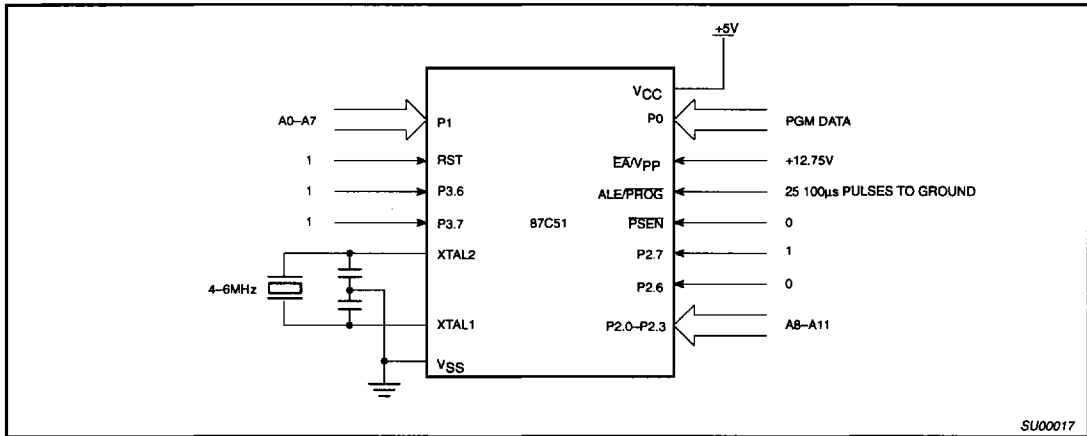
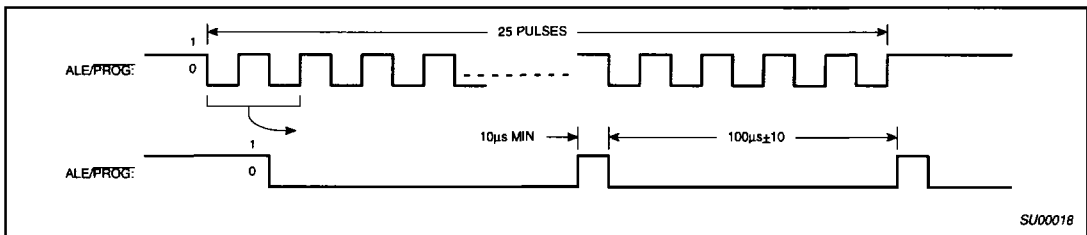
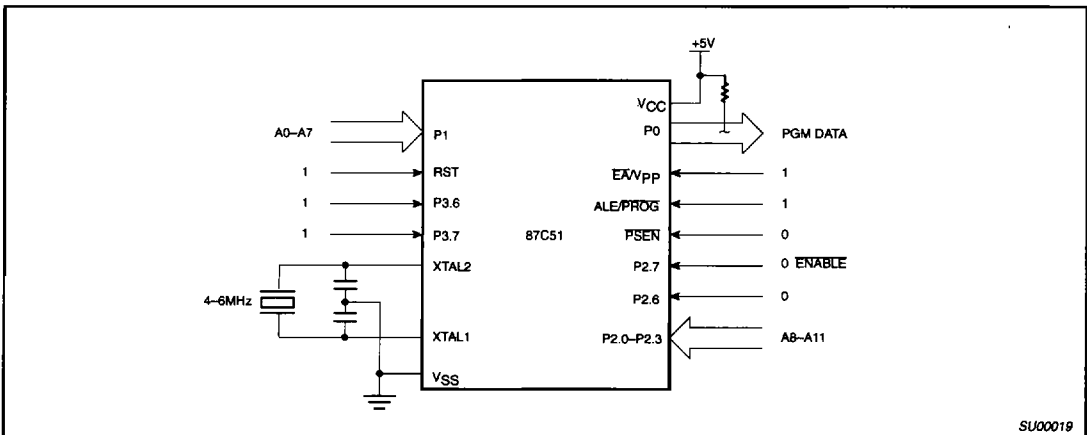

Figure 13. Programming Configuration
Figure 14. PROG Waveform
Figure 15. Program Verification
Table 3 shows the logic levels for reading the signature bytes, and for programming the program memory, the encryption table, and the security bits. The circuit configuration and waveforms for quick-pulse programming are shown in Figures 13 and 14. Figure 15 shows the circuit configuration for normal program memory verification.
The setup for microcontroller quick-pulse programming is shown in Figure 13. Note that the 87C51 is running with a 4 to 6MHz oscillator. The reason the oscillator needs to be running is that the device is executing internal address and program data transfers.
The address of the EPROM location to be programmed is applied to ports 1 and 2, as shown in Figure 13. The code byte to be programmed into that location is applied to port 0. RST, PSEN and pins of ports 2 and 3 specified in Table 3 are held at the 'Program Code Data' levels indicated in Table 3. The ALE/PROG is pulsed low 25 times as shown in Figure 14.
If security bit 2 has not been programmed, the on-chip program memory can be read out for program verification. The address of the program memory locations to be read is applied to ports 1 and 2 as shown in Figure 15. The other pins are held at the 'Verify Code Data' levels indicated in Table 3. The contents of the address location will be emitted on port 0. External pull-ups are required on port 0 for this operation.
* FOR PROGRAMMING VERIFICATION SEE FIGURE 13.
FOR VERIFICATION CONDITIONS SEE FIGURE 15